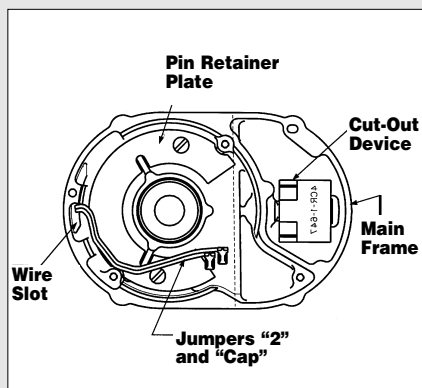
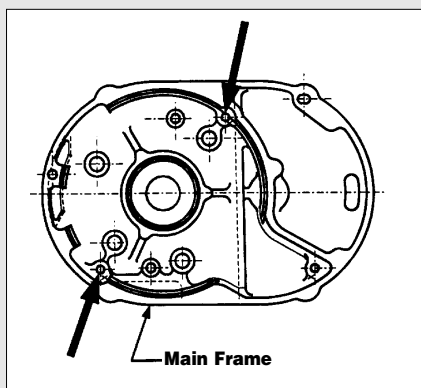

Figure 12A
Figure 12B
9. To install the stator refer to Figure 12A and make sure that the pin retainer plate (620-125) has been
assembled to the main frame (620-107). On single phase units slide jumpers "2" and "CAP" through the wire slot in the main frame. Route these wires around the rotor bearing boss in the main frame as shown in Figure 12A. Attach the brown and blue stator leads and "2" jumper to cut-out device (refer to wiring diagram). Slide the cut-out device into the cavity as shown. Push the cut-out device down until it sets on the main frame. Place the capacitor on top of the cut-out device and attach "CAP" jumper and the yellow stator lead to it. Re-route jumpers "2" and "CAP", if necessary to make sure they clear the rotor bearing boss as shown in Figure 12A. On all units slide stator leads through wire slot. Align the slots in the stator shell with the threaded holes in the main frame, as shown in Figure 12B. With the leads down, slide the stator into the main frame. Slide the rotor, large bearing first, into stator. Place the rotor thrust washer (620-104) on top of the exposed rotor bearing and then assemble the motor end cover (620-105) to the main frame. Using wiring diagram, complete the wiring at the brake end of the unit.